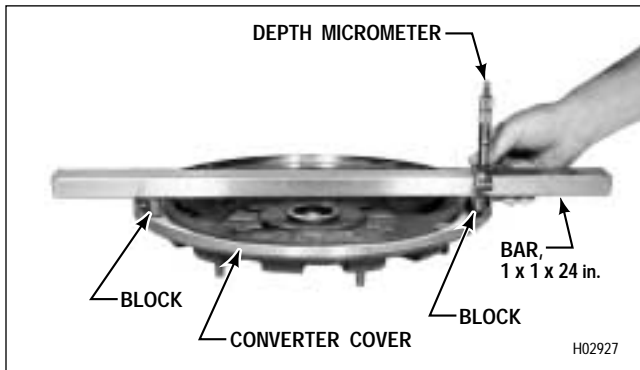

Figure 6-14. Measuring Dimension B for Selection of Converter Spacer (AT 543)
(21) Measure the distance from the top of the bar to the mounting surface of the converter cover (between bolt holes) as shown in Figure 6-14. Record this Dimension as **B**.